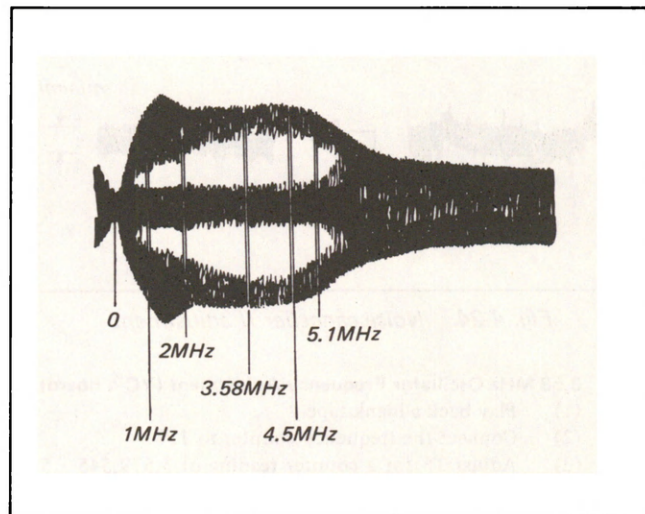

Fig. 4-22. Playback amplifier frequency characteristic adjustment
- (1) Play back the Beta II RF sweep signal segment of the alignment tape.
- (2) Connect the oscilloscope to TP4 and trigger it externally from TP3. Select the negative (–) trigger slope to observe the CH-A signal and the positive (+) one to observe the CH-B signal.
- (3) Turn the TRACKING CONTROL knob for maximum RF output level.
- (4) Adjust RV6 (RV5) so that the level between 2 MHz and 5.1 MHz is flat. (See Fig. 4-22.)
- (5) Adjust RV7 so that the CH-A and the CH-B levels from 2 MHz to 4.5 MHz are equal. (See Fig. 4-22.)